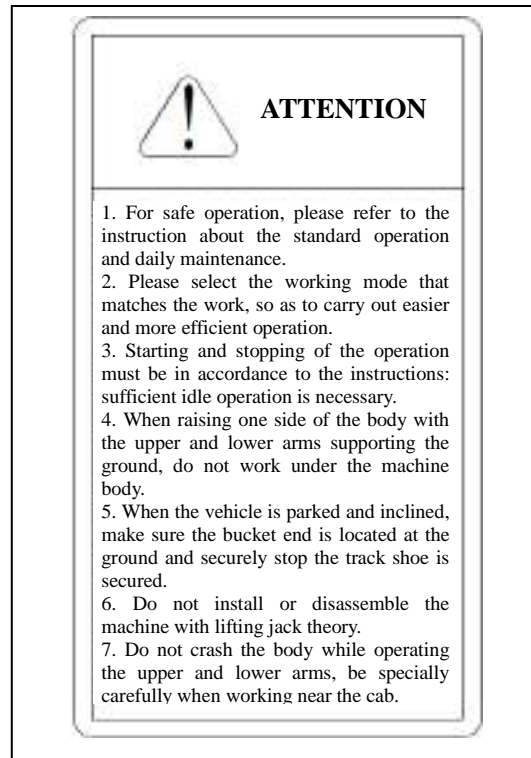

Figure 1-14 Precautions during operation
(13) Precautions during operation, as shown in Figure 1-14.